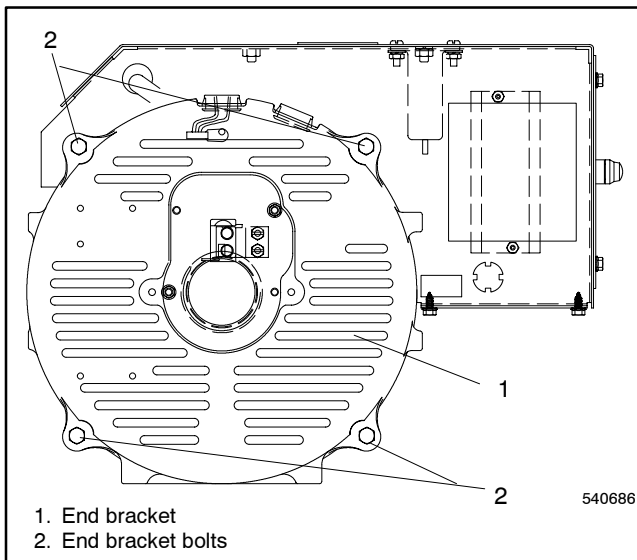

Figure 6-6 End Bracket
14. Use a mallet to gently tap end bracket away from stator. See Figure 6-6. Carefully pull stator leads through port in end bracket during end bracket removal.